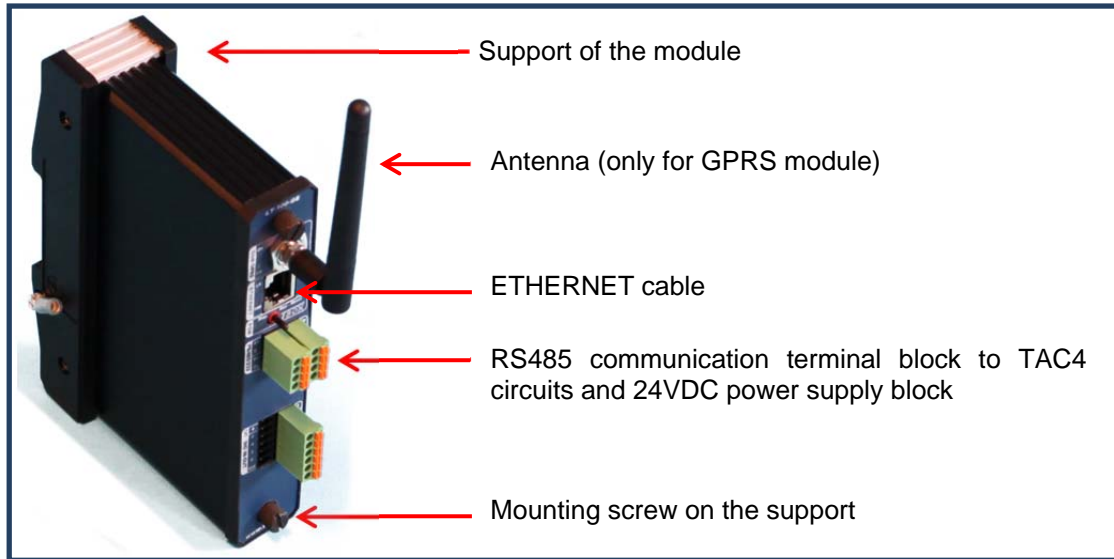

Figure 2
- 2) Fasten the module on its support using the mounting screws (see Figure 2).